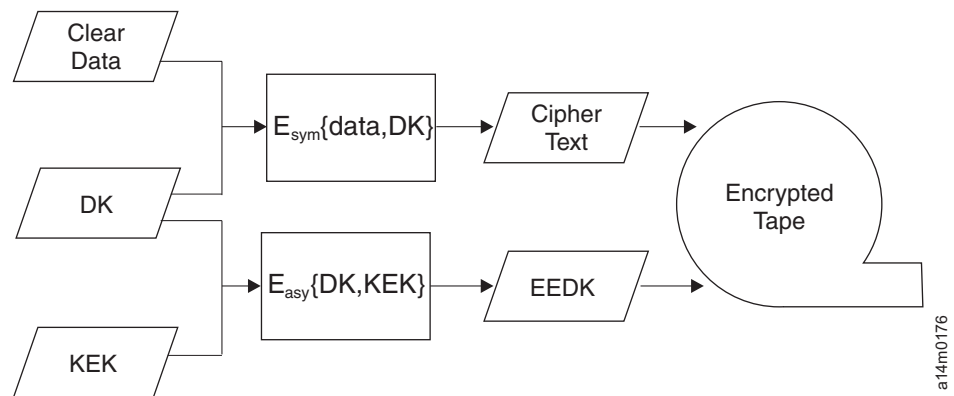

Figure 54. Encryption Using both Symmetric and Asymmetric Encryption Keys. System-Managed and Library-Managed Encryption on TS1120 Tape Drives
In system-managed and library-managed tape encryption, unencrypted data (clear text) is sent to the TS1120 Tape Drive and converted to ciphertext using a symmetric 256-bit AES Data Key (DK) generated by EKM and is then written to tape. EKM uses a single, unique Data Key for each TS1120 tape cartridge. This Data Key is also encrypted, or wrapped, by EKM using the public key from an asymmetric Key Encrypting Key (KEK) pair. This process creates an Externally Encrypted Data Key (EEDK). The EEDK is written to the cartridge memory and to three additional places on the tape media in the cartridge. The tape cartridge now holds both the encrypted data and the means to decrypt it for anyone holding the private part of the KEK pair. Figure 54 on page 189 illustrates this process.